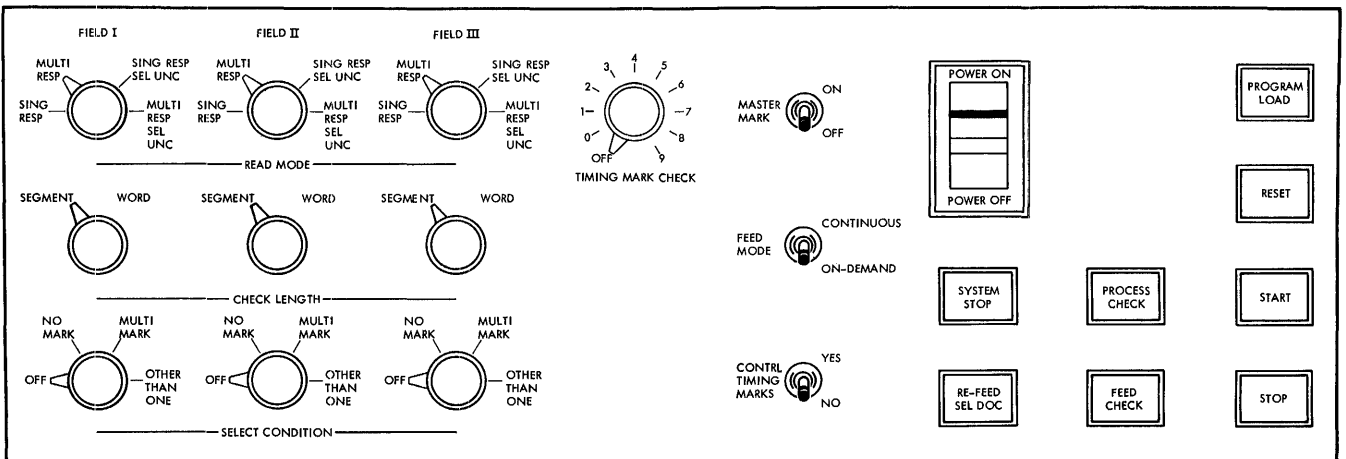

Figure 101. IBM 1231 Operator's Console
The operator's console (Figure 101) on the optical mark page reader contains the keys, lights and switches necessary for setup and operation.
6. Set the field-checking switches to their proper settings. The check-length switches should be set to either **WORD** or **SEGMENT**; the select condition switches should be set to **OFF**, **NO-MARK**, or **OTHER-THAN-ONE**; the read mode switch should be set to **SING RESP**, **MULT RESP**, **SING RESP SEL UNC** or **MULT RESP SEL UNC**. See Figure 101.